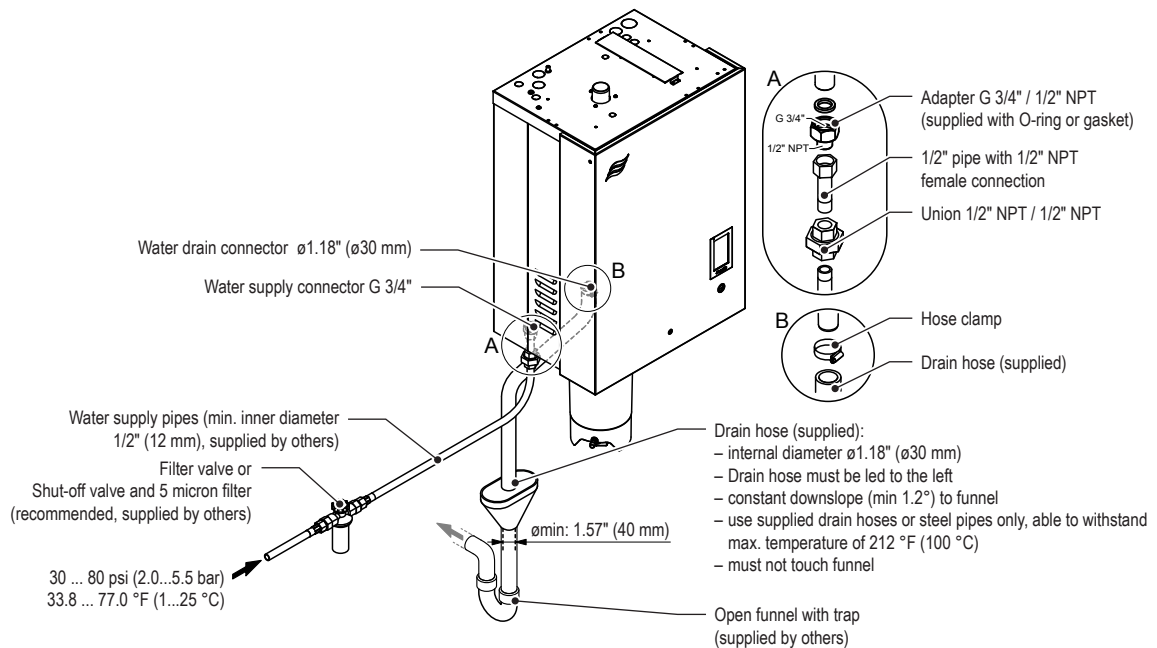
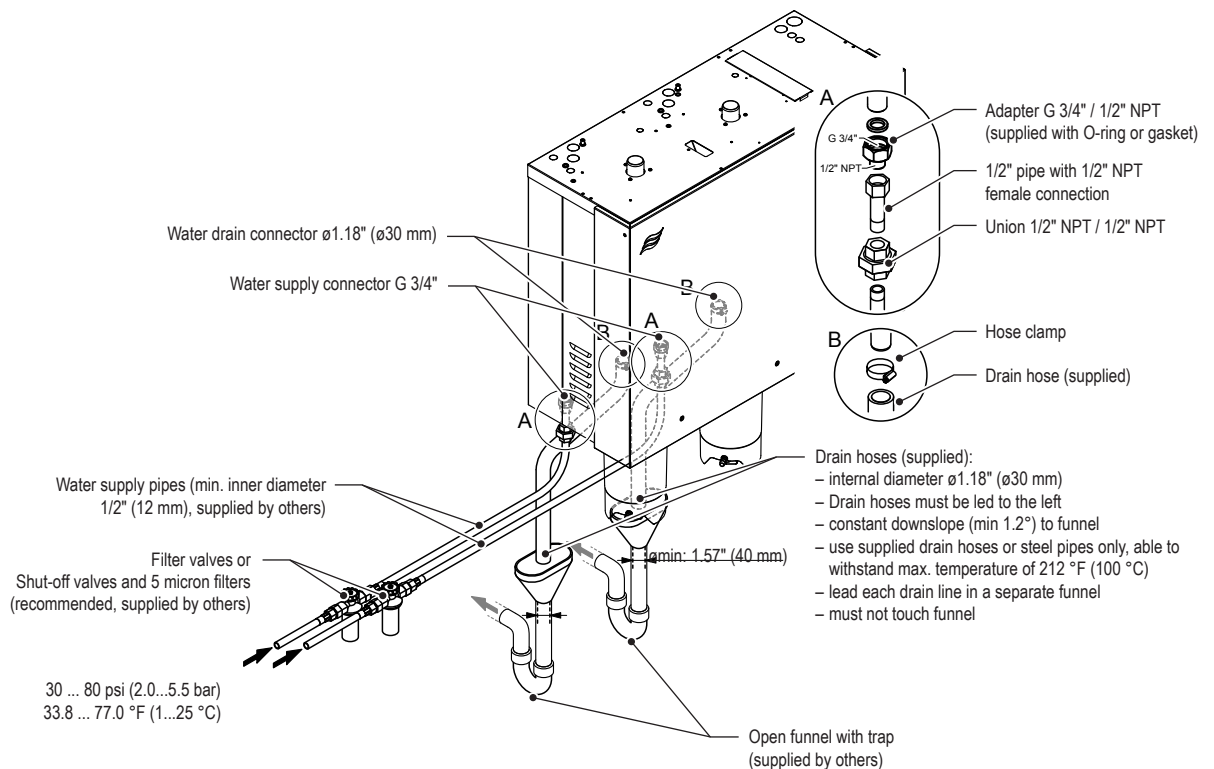
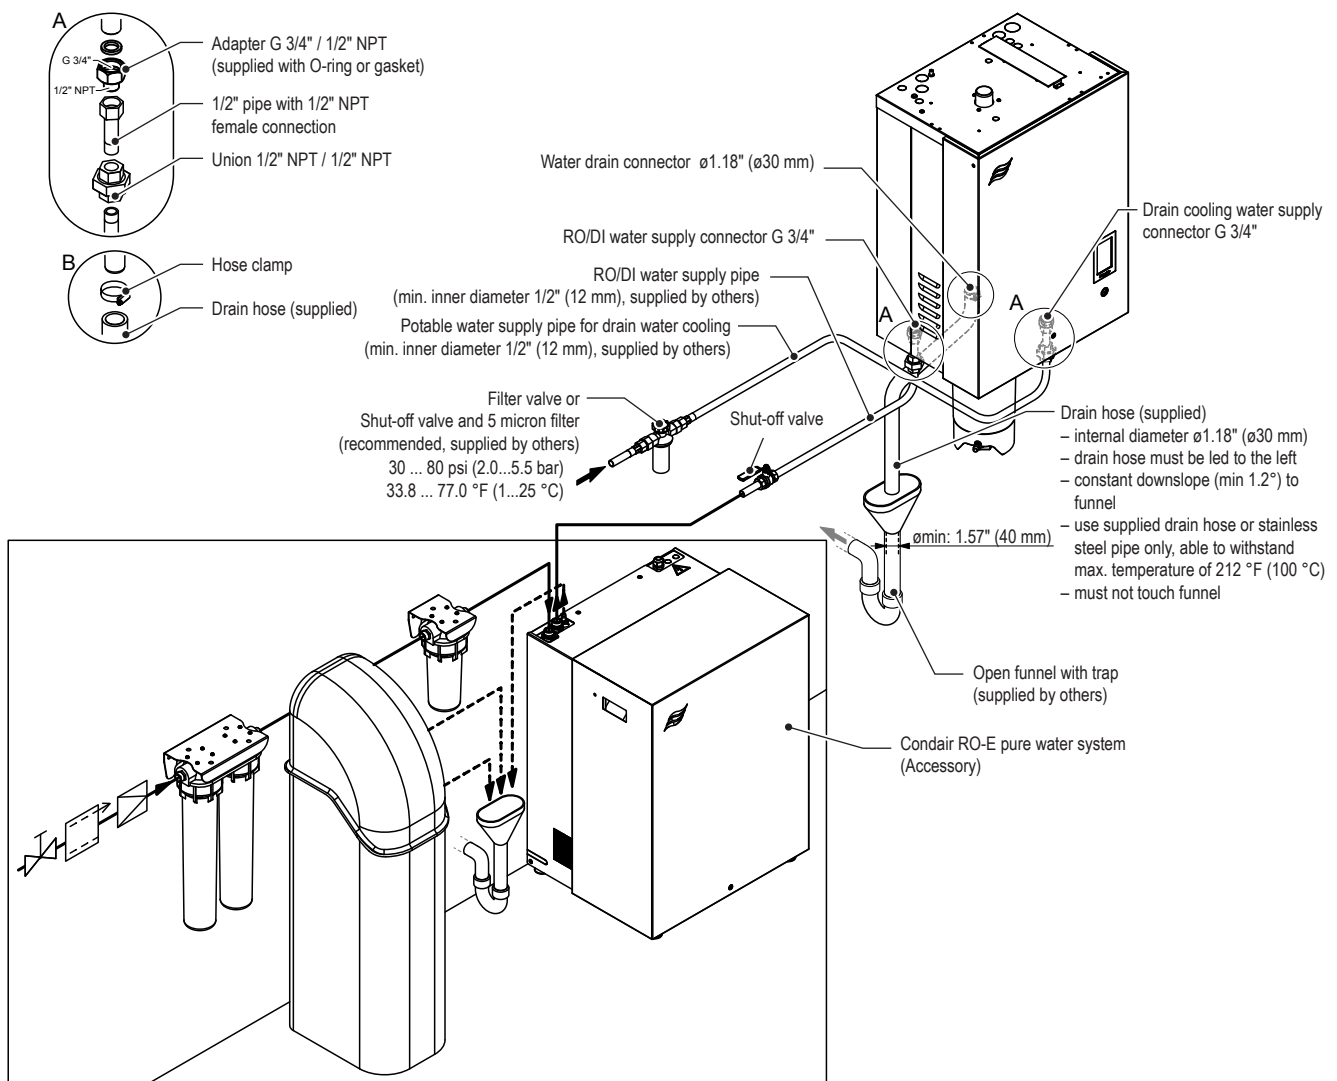
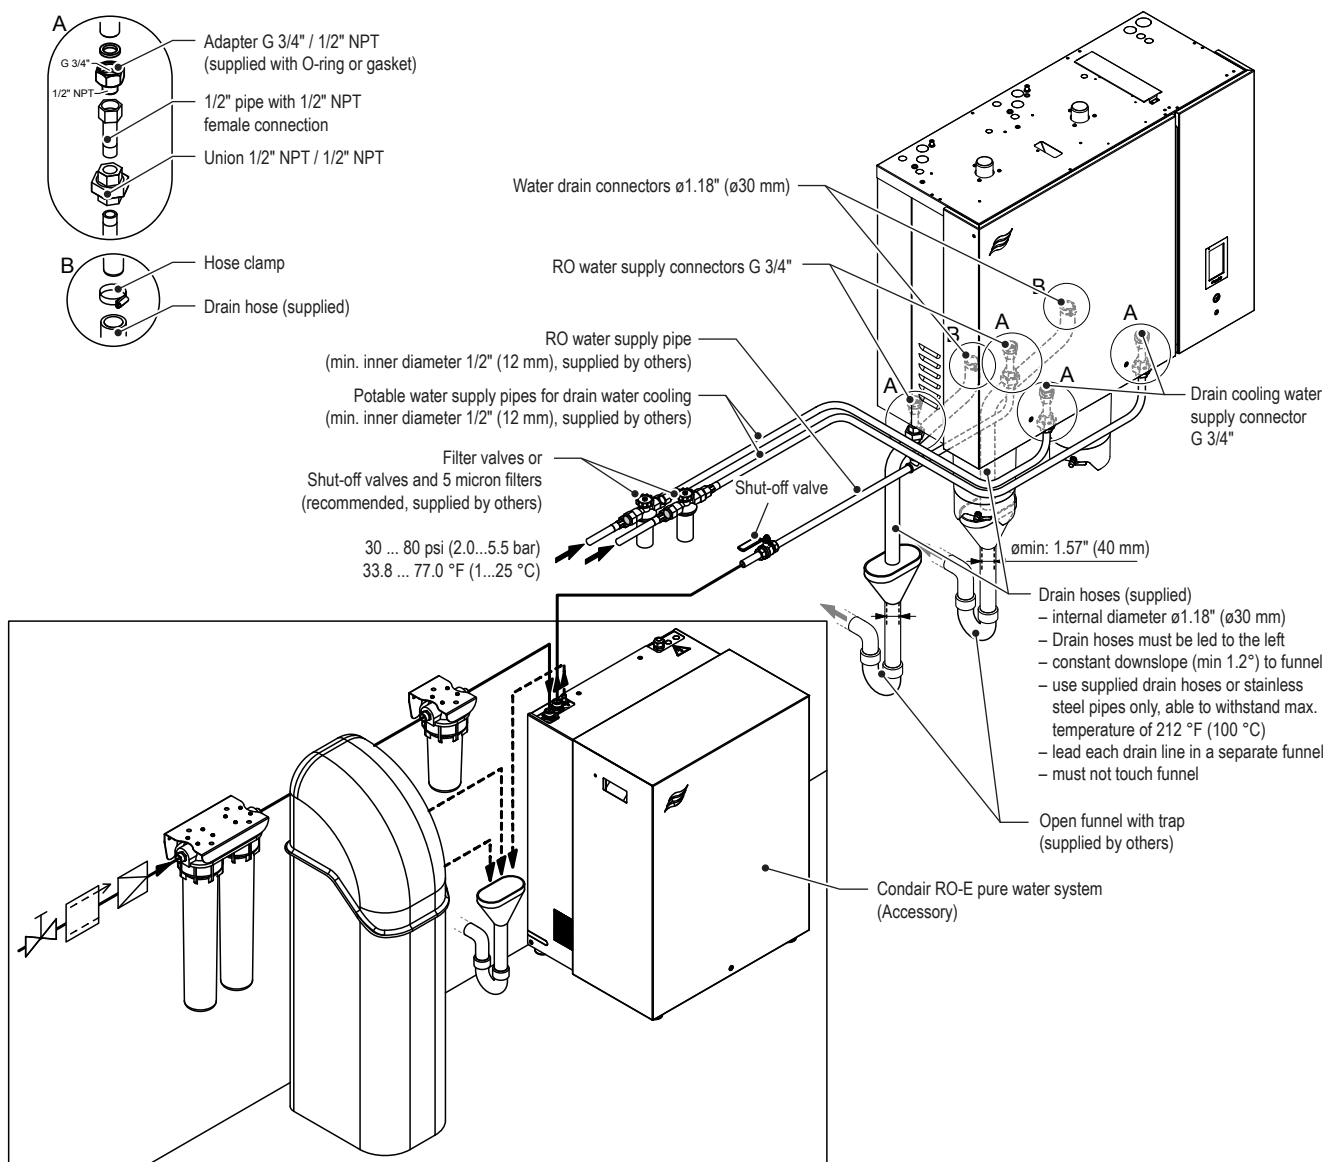

Fig. 17: Overview water installation for single units Small and Medium
Fig. 18: Overview water installation for single units Large
Fig. 19: Overview water installation for single units Small and Medium (with RS-RO option installed)
Fig. 20: Overview water installation for single units Large (with RS-RO option installed)
The water supply is to be carried out according to Fig. 17 and Fig. 18 or Fig. 19 and Fig. 20 and the applicable local regulations for water installations. The indicated connection specifications must be observed.
With the RS-RO option installed the water supply and the drain cooling water supply are to be carried out according to Fig. 19 and Fig. 20 and the applicable local regulations for water installations. The indicated connection specifications must be observed.
- The RO water supply must be connected to the inlet connector(s) according to Fig. 19 and Fig. 20. Use only installation material that is approved for RO or DI water to connect the RO-E pure water system to the Condair RS. All water supply requirements outlined in Section 5.6.3.1 must also be adhered to with the RO or DI water supply.
The separate drain cooling water supply must be connected to the optional drain water cooling inlet valve(s) provided with the RS-RO option according to Fig. 19 and Fig. 20. Please observe the following notes regarding the drain cooling water supply installation.
- Always lead the supplied drain hose from the connector to the left down to the funnel (see Fig. 17).
On large units with two steam cylinders each drain line must be led into a separate funnel with trap (see Fig. 18).
- ☐ Has RO water supply been connected to the water inlet connector according to Fig. 19 and Fig. 20 and has installation material been used approved for use with RO water?